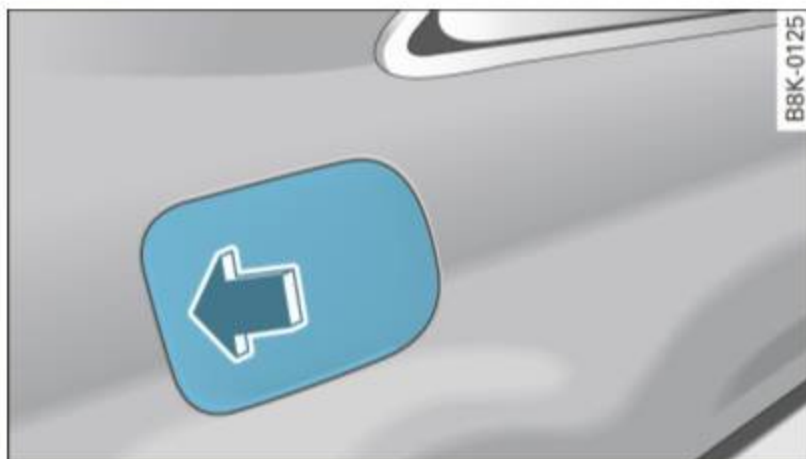

Fig. 199 Right rear vehicle side: Opening the fuel filler flap
- Press the left side of the fuel filler flap to open it ⇒ fig. 199 -arrow-.